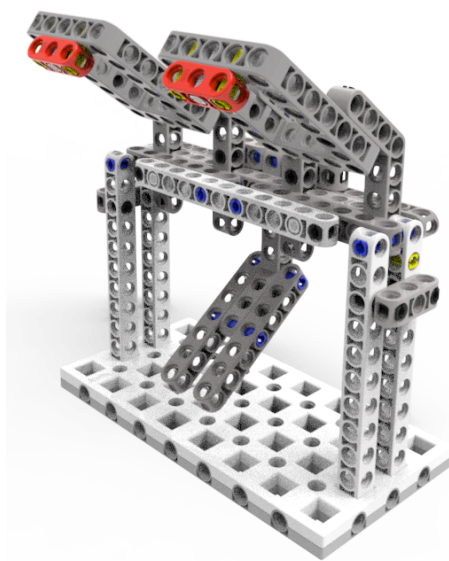

Figure 3-4-2 Finished Status 1
3.4.2 By pushing the handle, the network port is attached and connected, the Finished Status 1 (as shown in Figure 3-4-2, 40 points).